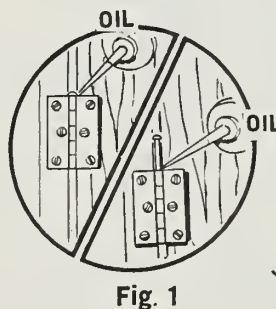

Fig. 1
1. You can usually stop a door squeak by putting a few drops of oil at the top of each hinge. Move the door back and forth to work the oil into the hinge. If the squeaking does not stop, raise the pin and add more oil. (Fig. 1)